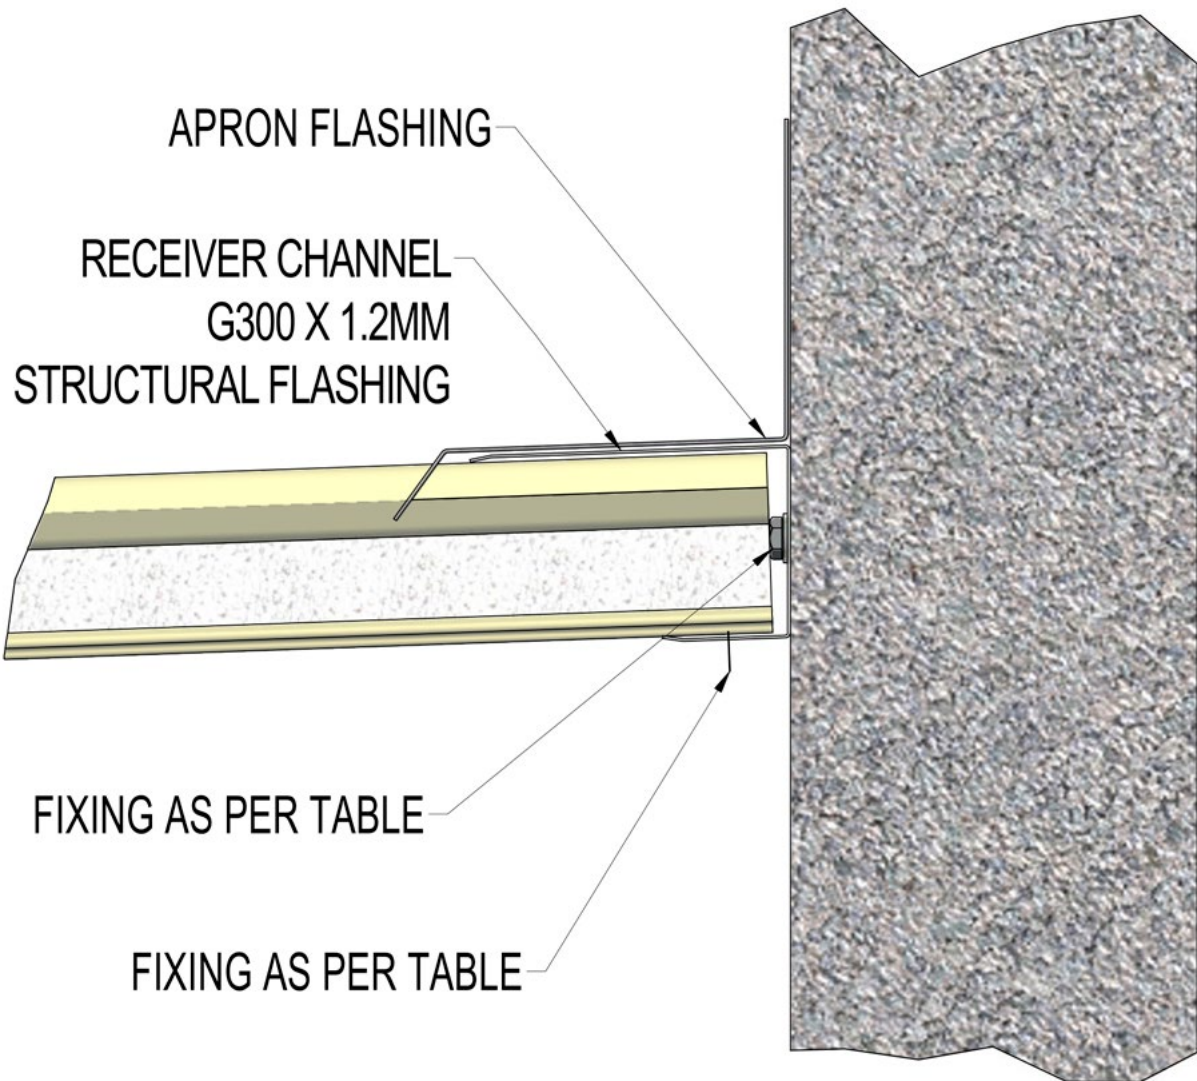

Figure A31
**Roofing to Masonry Wall (see Figure A31)**